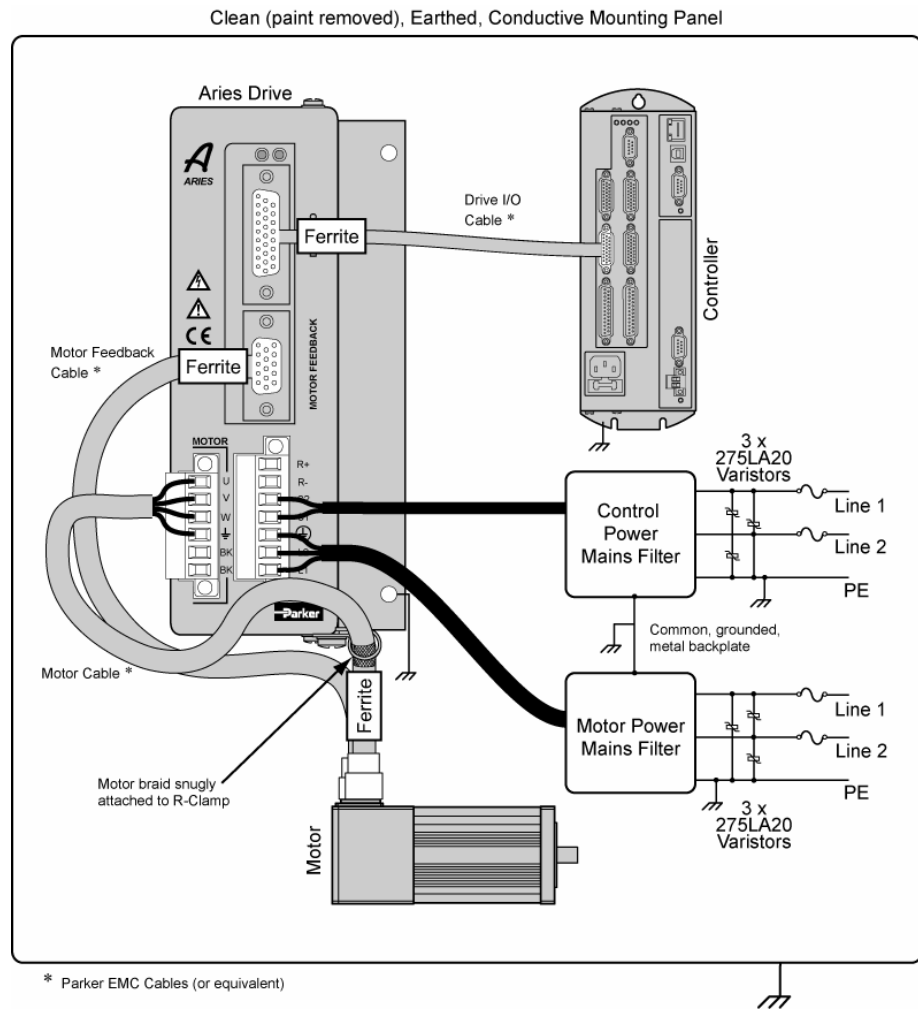
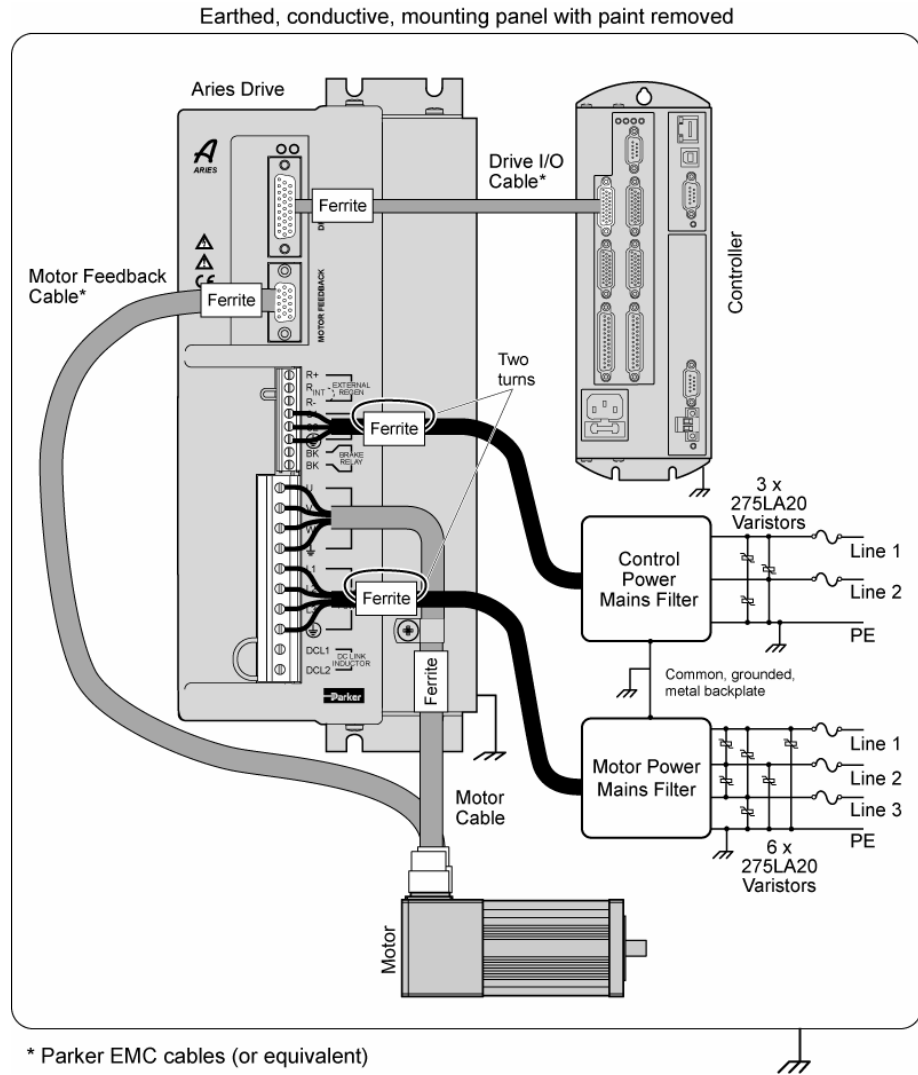

Figure 53 Typical LVD/EMC Installation, AR-02xx to AR-13xx
Figure 54 Typical LVD/EMC Installation, AR-20xE & AR-30xE
**Control Power** – You must install varistors or other voltage surge limiting devices in order to meet the requirements of EN61000-4-5. Level 3 Voltage Surge (1000V line-to-line, 2000V line-to-earth) protection can be achieved by placing a Littelfuse V275LA20C, or an equivalent varistors from line-to-line and from line-to-earth before the mains filter as shown in Figure 54 Typical LVD/EMC Installation, AR-20xE & AR-30xE on page 198.
**Mains Motor Power** – The three-phase AC power Aries drives (models AR-20xE and AR-30xE) are designed to meet Level 3 Voltage Surge (1000V line-to-line, 2000V line-to-earth) without the need for external voltage surge limiting devices. If a higher level of mains surge immunity is required, external voltage surge limiting devices, such as varistors, can be installed before the mains filter. Figure 54 Typical LVD/EMC Installation, AR-20xE & AR-30xE on page 198 illustrates this installation.
- Route cables as shown in Figure 53 Typical LVD/EMC Installation, AR-02xx to AR-13xx on page 197 and Figure 54 Typical LVD/EMC Installation, AR-20xE & AR-30xE on page 198.